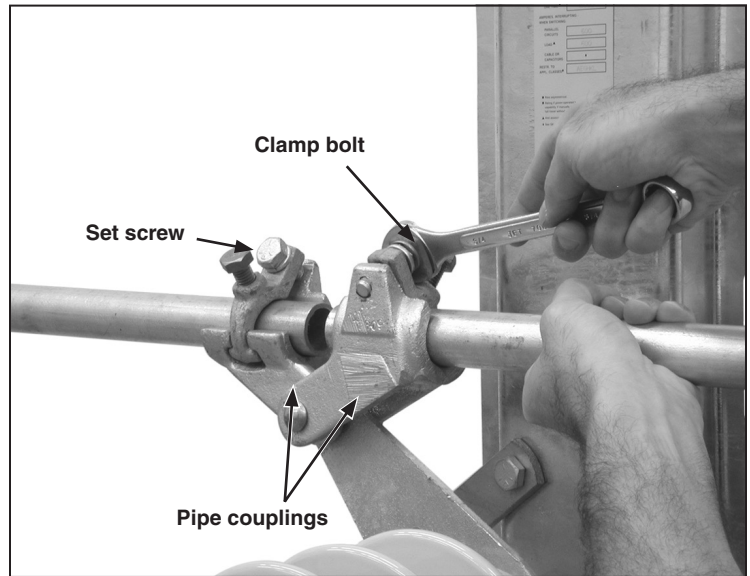

Figure 38. Readjust the interphase pipe.
- (e) In the unlikely event only one or two switch poles are fully closed, loosen the clamp bolt(s) on the interphase pipe coupling(s) at the switch-pole operating lever, and reposition the pipe coupling to increase or decrease the effective length of the interphase operating pipe. Torque the clamp bolt of each pipe-coupling clamp to final tightness, and then tighten the associated piercing set screws, piercing the pipe. Continue turning until a firm resistance is felt. See Figure 38.